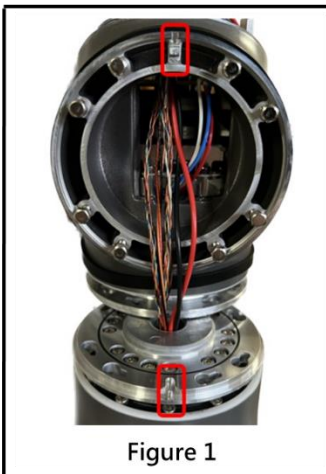
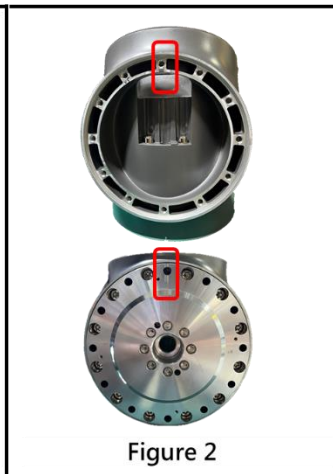
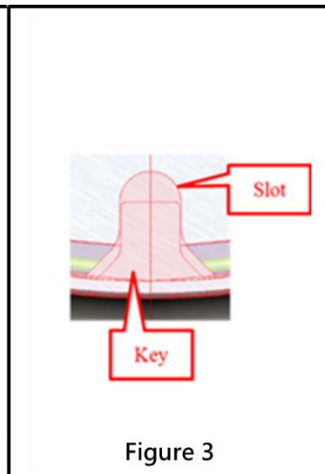

Figure 1
Figure 2
Figure 3
6.6.3 When assembling the joint, to ensure the correct installation orientation, it is necessary to interlock the key and slot between the joints (refer to Figure 1 & Figure 2) (refer to Figure 3). Operators can visually align the holes or insert an $\varnothing 1.9\text{mm}$ pin into the hole to verify proper installation (refer to Figure 4). If the hole of two joints are not in the same direction, or if misalignment prevents the insertion of the locating pin, do not proceed with further assembly.